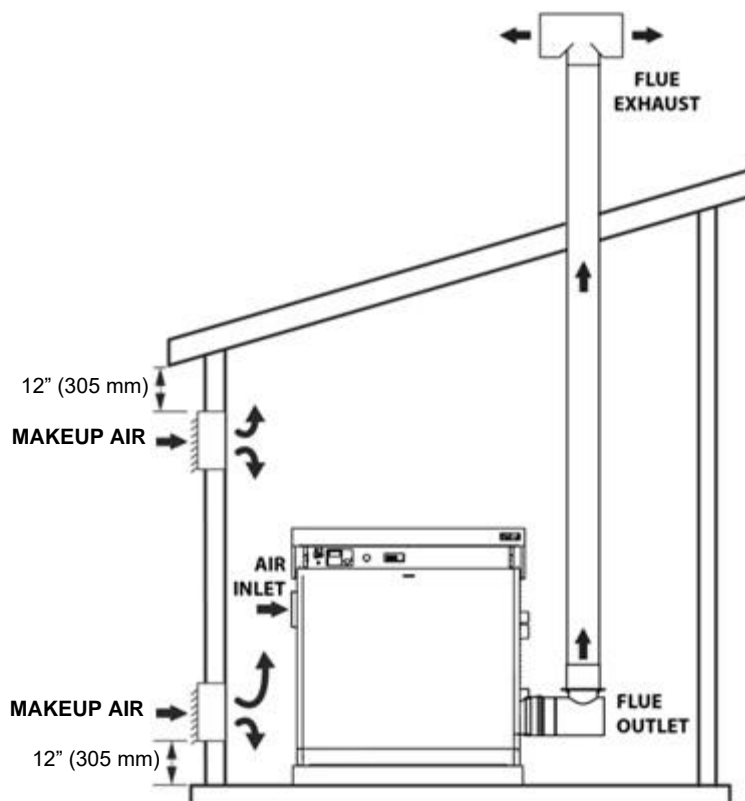

Figure 5: Combustion-Air Makeup-Air Vent Locations
3. When combustion air is brought from outside the building and the boiler room is provided with two permanent openings, one shall commence 12 inches from the top and the other shall commence within 12 inches from the bottom of the room (see Figure 5). The openings shall communicate directly, or by ducts, freely with the outdoors. One of the following methods must be made to provide adequate air for ventilation and combustion.
Correct boiler venting is crucial for proper operation. Being a condensing boiler, combustion gases are discharged at a very low temperature. It is therefore necessary for the venting system to be impermeable to combustion products and condensate and to be made of corrosion resistant materials. Typical Category IV venting and sealed combustion illustrations are shown in Figure 5 through 9. The various funnel joints shall be well sealed and/or equipped with suitable gaskets, in order to avoid any condensate drain and/or air intake. Ensure that the boiler vent's section and height conform to national and local regulations (see Section 1.1 in this guide).